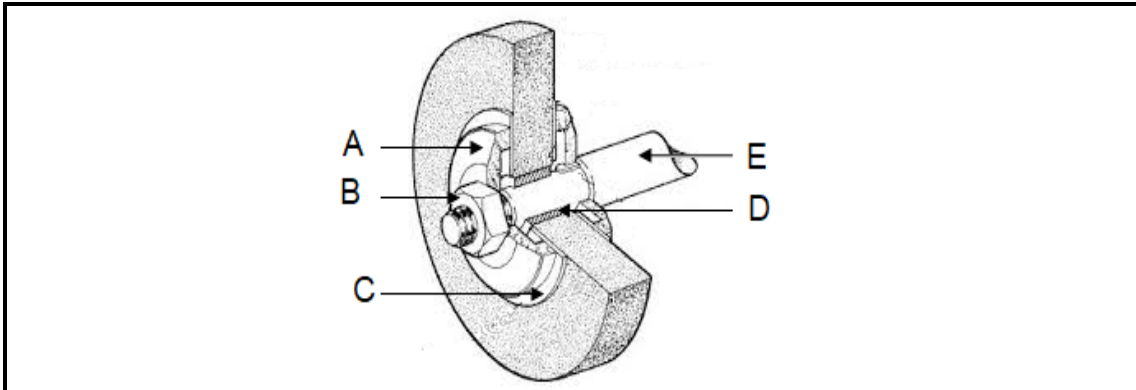

FIGURE 1
1.2 FIGURE 1 below shows a grinding wheel assembly. Name the labelled parts by writing only the name next to the letter (A–E) in the ANSWER BOOK. (5)